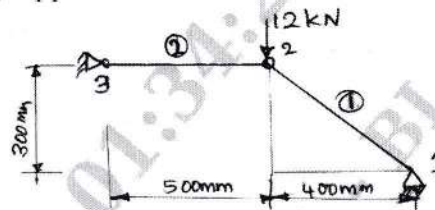

Fig.Q.2(b)
- For the two bar truss shown in Fig.Q.2(b). Determine the displacements, stress in each elements and reactions at the support. (12 Marks)